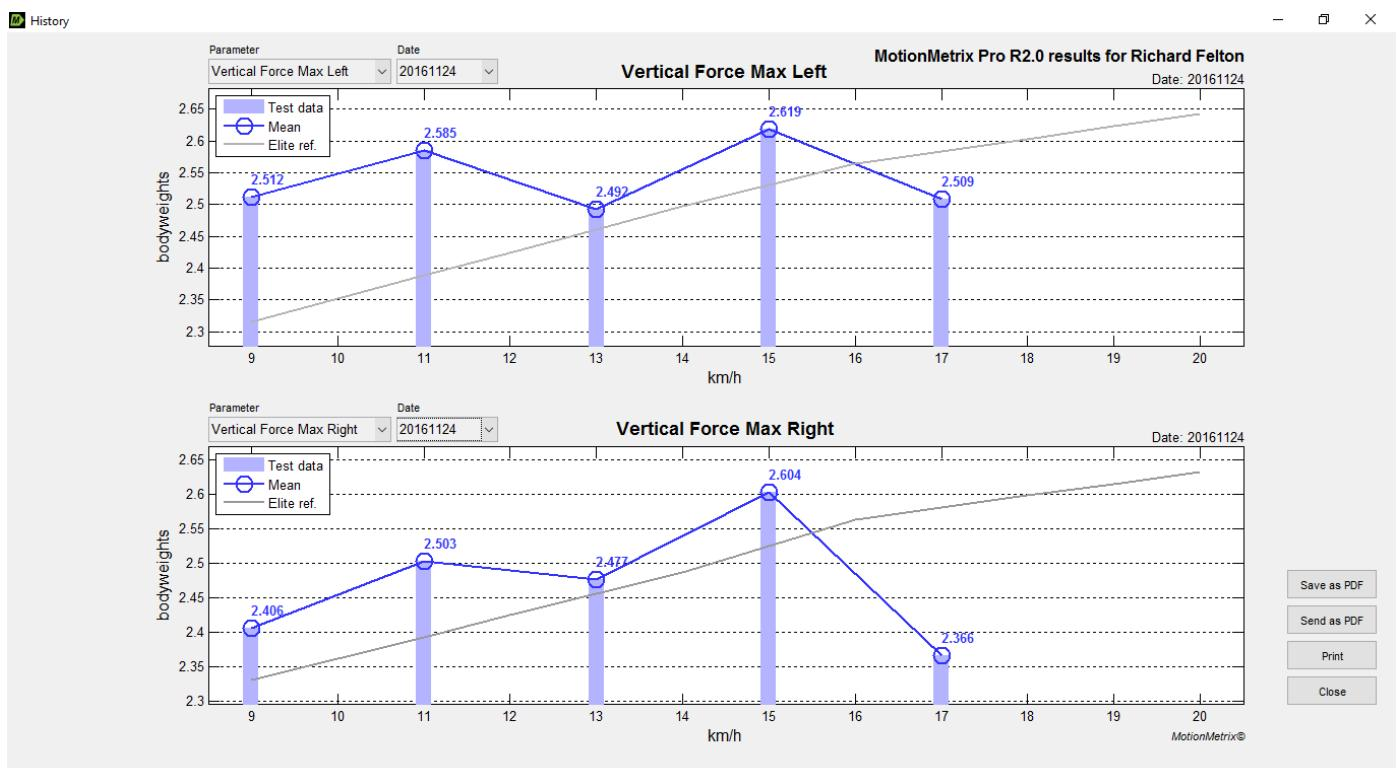

Fig5. Vertical Forces (blue bar) at each tested speed. Black line is the optimal elite target. Significant drop in force on the right side at 17kmph.
- As the pace increases closer to the runners marathon race pace (17kmph) the right side has a big drop in force application. The left side has to begin to overcompensate for this. (**See Figure 5**)